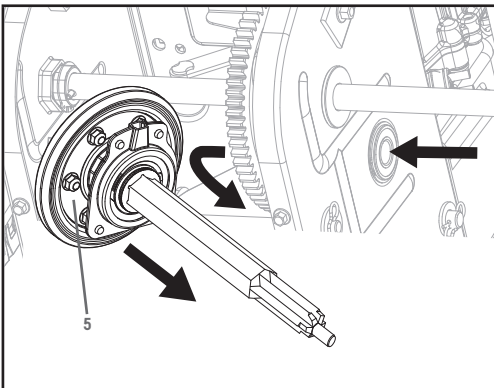

Figure 29
- Carefully position the hex shaft downward and to the left before carefully sliding the friction disc assembly (5) off the shaft (Fig. 29).